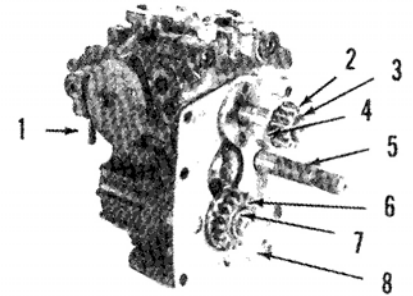

Fig. 55—Rear view of hydrostatic transmission.
tion can be determined after reassembly. Remove snap ring (3—Fig. 55), then withdraw gear (2) and bearing (4). Remove snap ring (7), then withdraw gear (6). On models so equipped, extract front-wheel drive shaft (5) out front of transmission. Remove nipple fitting (1) and gasket (8).